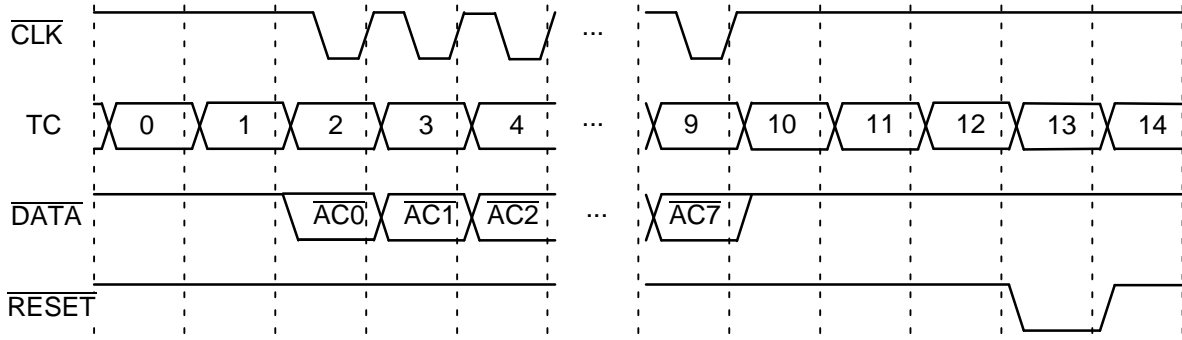

Figure 1: MEA Output Timing
The first task for the decoder board is to receive and write the MEA register values. Figure 1 shows the timing diagram for $\overline{\text{ME_OUT_CLOCK}}$, $\overline{\text{ME_OUT_DATA}}$ and $\overline{\text{ME_OUT_RESET}}$, where $\overline{\text{CLK}}$, $\overline{\text{DATA}}$ and $\overline{\text{RESET}}$, respectively, are used as the signal names. TC is the timer counter value in E8/T. Data in the accumulator (AC) register is shifted out least significant bit first during T2–9. The reset signal goes low at T13.